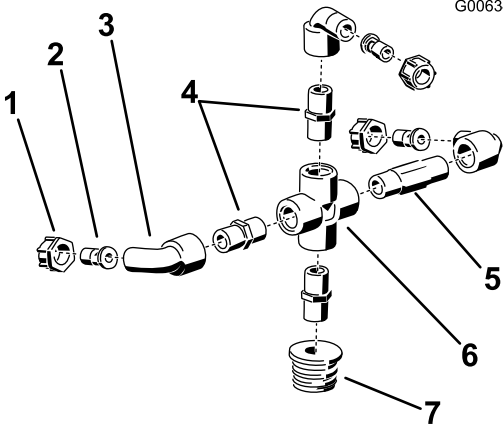
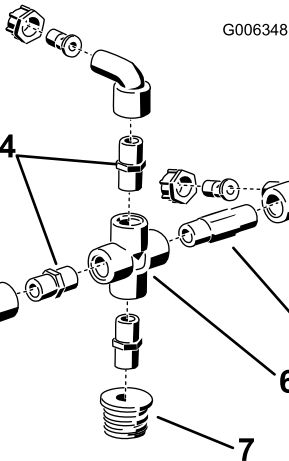

Figure 1
Figure 2
- 1. Locate the loose parts shown in Figure 1 and Figure 2. Assemble the parts as shown for both nozzles. Finger tighten to allow for further adjustment.